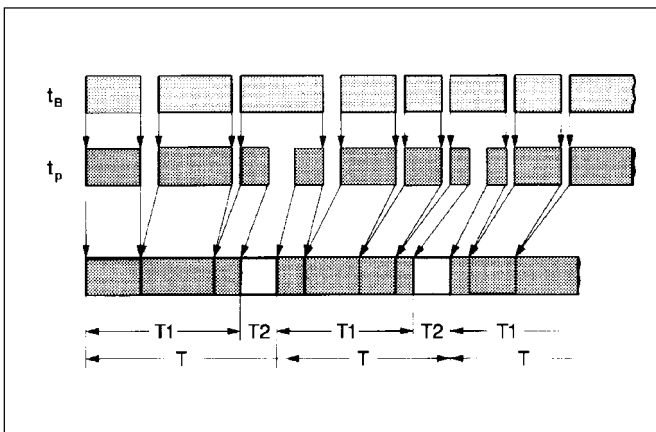

Fig.2 - Time sequence diagram
- A lubrication cycle consists of one pause time and one operating time. Once the pause time has elapsed, the operating time starts to run. This lubrication cycle is repeated permanently after the machine or vehicle has been put into operation. Refer to Fig. 2.